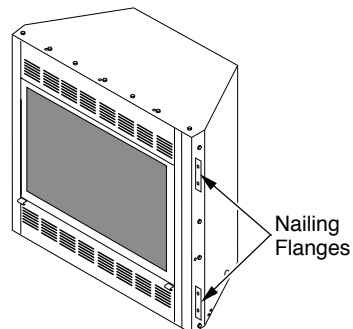

Figure 32 - Location of Nailing Flanges (EFP33PR Shown)
7. Break off nailing flanges (see Figure 32) with hammer or pliers.